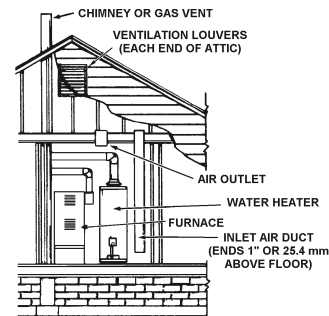

FIGURE 7.
2. When communicating with the outdoors through vertical ducts, each opening must have a minimum free area of 1 square inch per 4,000 Btu per hour (5.5 cm2/kW) of total input rating of all equipment in the enclosure, see Figure 7.